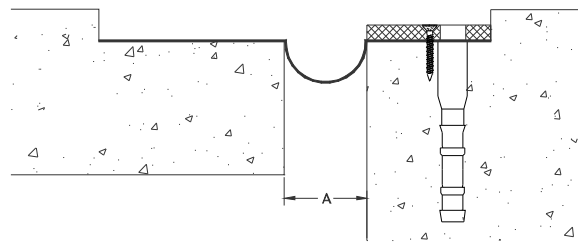

Figure 8
STEP 17. Place the pad back into its installed position, and attach the pad, along with the fire barrier and/or the water barrier, to the concrete using the fasteners provided by the factory (see Figure 8). Ensure that the heads of the fasteners are flush with or below the top surface of the pad. Ensure that the pad is properly aligned.